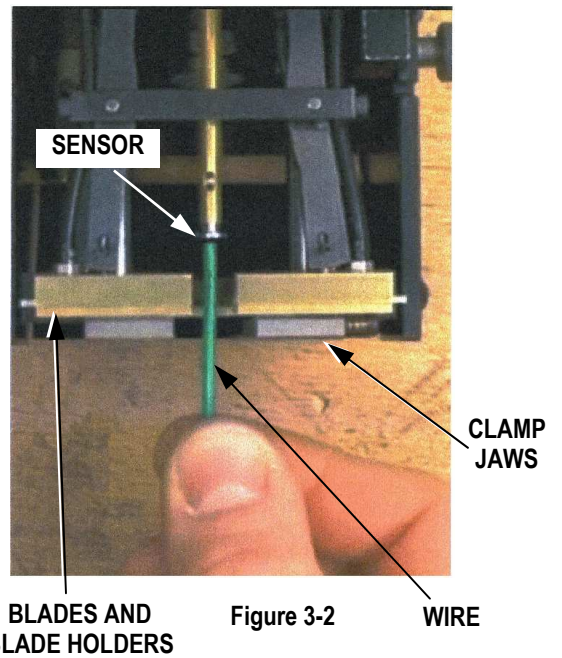

Figure 3-2
3. Insert the cable or wire into the slot of the safety cover until the end touches the Sensor (028.0035). See Figure 3-2.